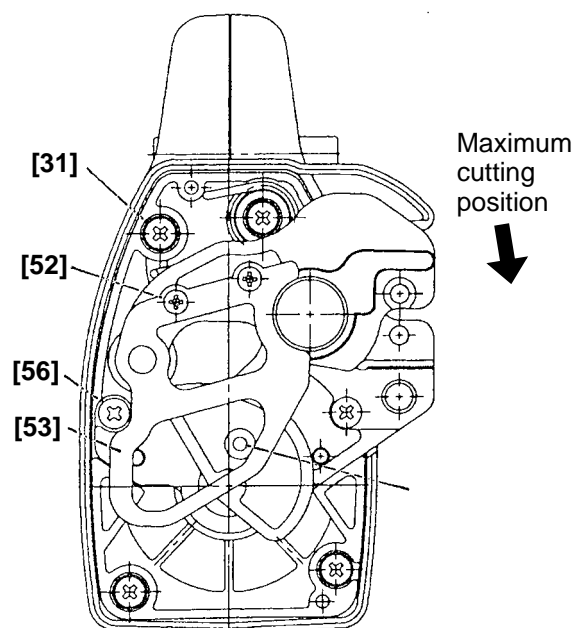

Fig. 42
(iii) Mount the Gear Cover [33] to the housing keeping Bracket (A) [54] at the maximum cutting position in the same manner as the removal procedure (be careful of the spring force) (Fig. 42).
(iv) Tighten the four Tapping Screws (W/Flange) D5 x 25 (Black) [31] and the two Tapping Screws D5 x 35 [55] (Fig. 42).
Align the Return Plate [53] with the Roller Pin [66] and Bolt (A) [51]. Insert the pin of the Cam Shaft [67] in the hole of the Return Plate [53] and secure them with the two Seal Lock Screws (W/SP. Washer) M4 x 12 [52] (Fig. 42).